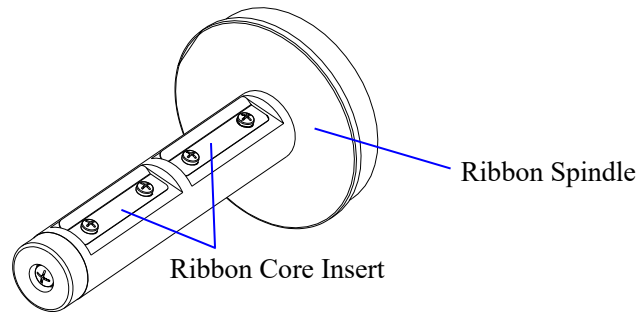

Figure 2-7
- Adjust the Ribbon Core Insert to ensure adequate pressure between the ribbon roll and the ribbon spindle. See Figure 2-7. Loosen the screws on the Shrapnel. Moving the Shrapnel outward or inward can increase or decrease the friction between the Ribbon Supply Spindle and the Ribbon Roll. Tighten the screws after adjusting the shrapnel to the appropriate position.